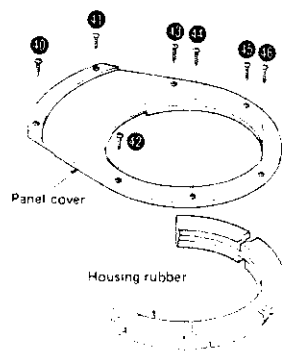

Fig. 11
2. Remove the 7 setscrews (Fig. 11 : ① ~ ⑦) of the panel cover.